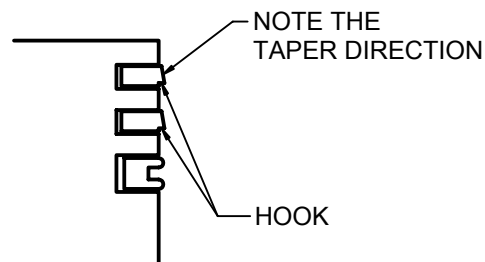

Figure I-6. Correct Piston Ring Orientation
- a. Ensure that gaps in the piston rings are staggered 90° apart on the new piston assembly. Also ensure that the “hook” in the upper piston rings is away from the top of the piston as shown in Figure I-6.
- b. Coat the piston pin (6), connecting rod bore, and piston pin bore with light oil, MIL-L-2104.